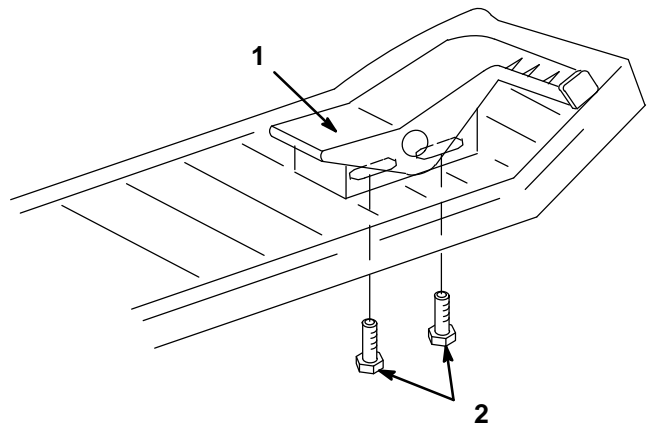

Figure 5
After adjusting the hydro neutral position it is necessary to check the traction control pedal. Shut the engine off. Press the control pedal full forward and full reverse. The transaxle linkage must contact the stop(s) before the control pedal hits the footrest pad (Fig. 5). If contact is made with the foot pad, before hitting stop(s) on transaxle, in either forward or reverse directions, adjustment is required.
1. Loosen the capscrews below the right footrest. Slide the pedal in the slots away from the direction that made contact with the footrest (Fig. 5).